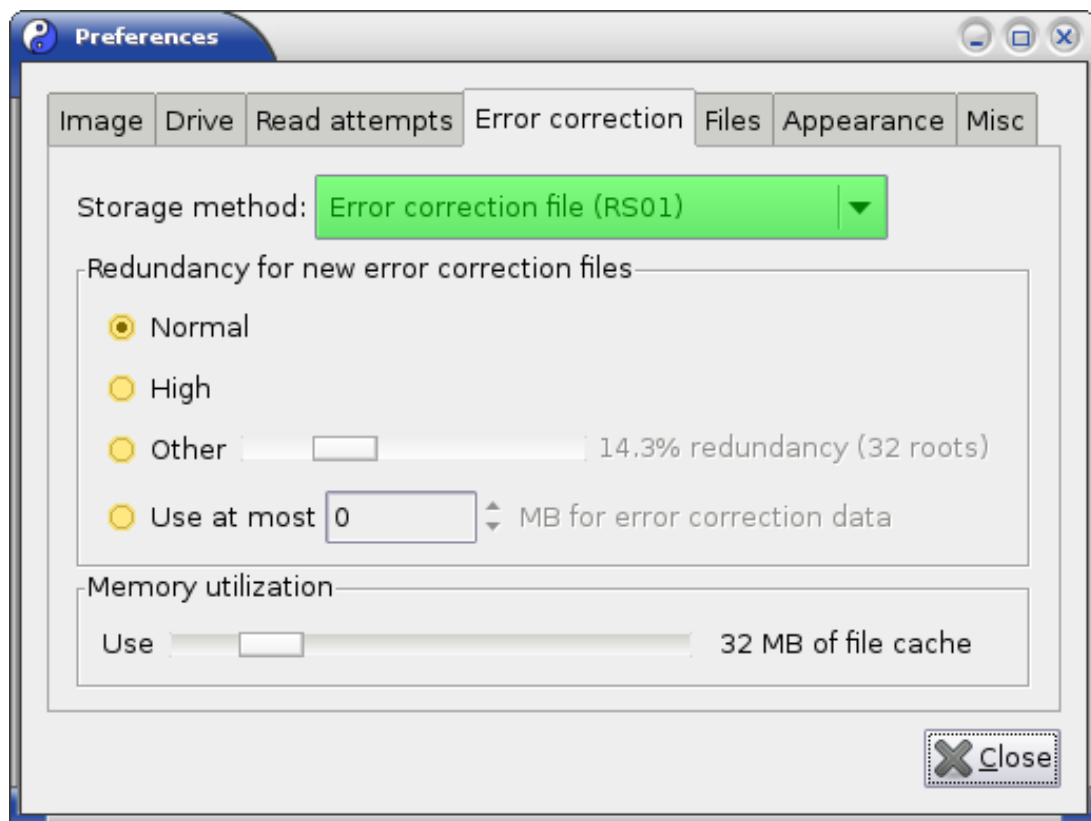

Figure 21: The “Error correction” tab for the old RS01 codec.
**Settings for encoding with the RS01 method.** If you want to use the old RS01 method, choose “Error correction file (RS01)” in the “Storage method” drop down menu (green marking; see fig. 21).